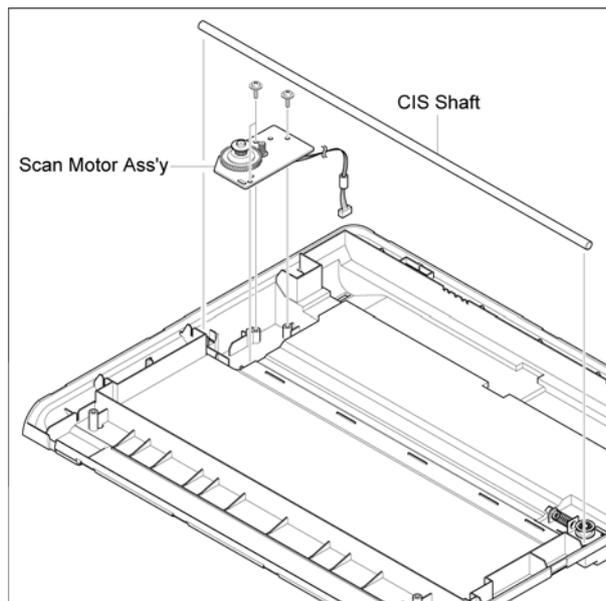

Figure 12
14. Remove the CIS shaft, 3 screws, then the Scan Motor Assembly, Figure 12.